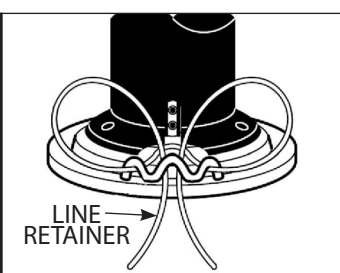

FIGURE 10B
4. Next, take the ends of the line, cross over the line retainer, and thread the ends through the center hold. **SEE FIGURE 10B.**